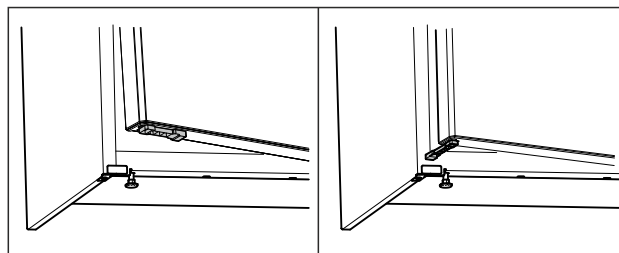

Fig. 62 \*
- ▶ Turn door opening limiter by 90°. (see Fig. 62) \*